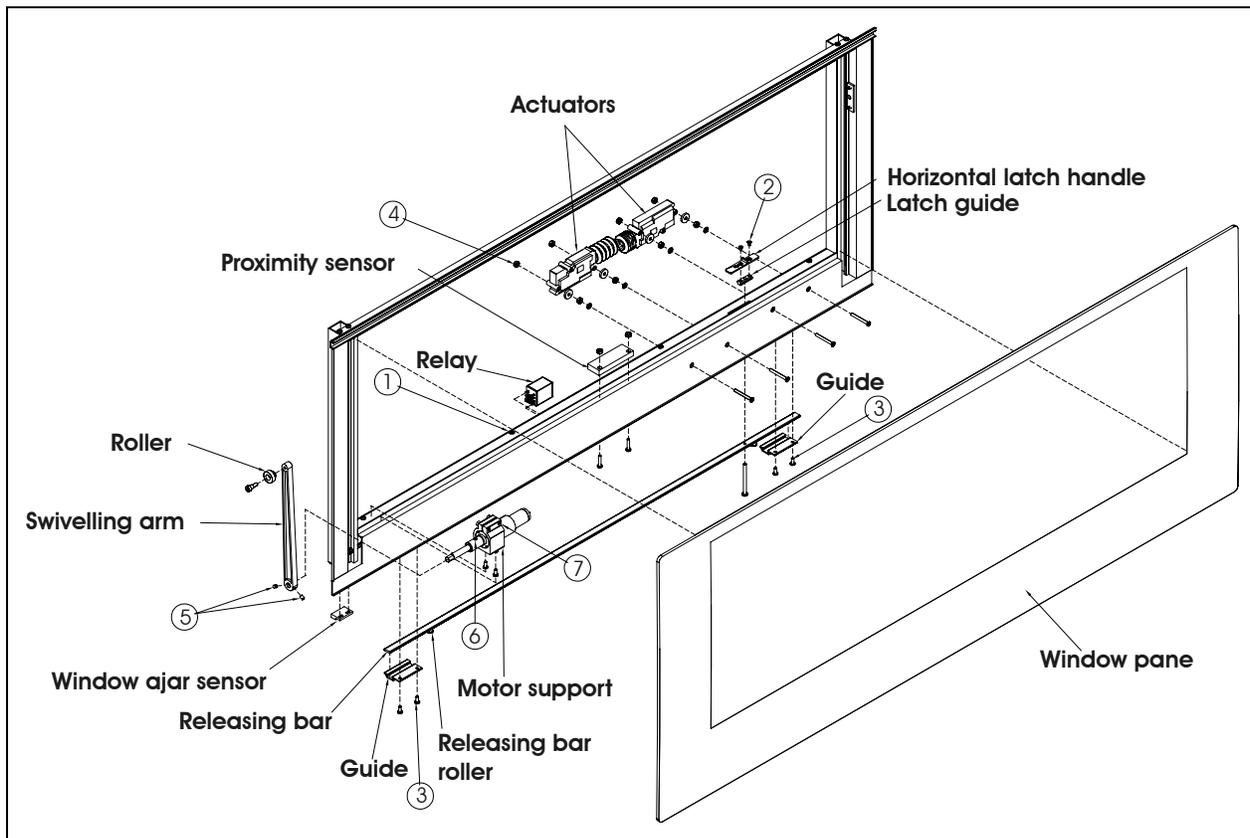

FIGURE 19: ELECTRIC AWNING WINDOW EXPLODED VIEW (SASH) 18583
4. Loosen the set screws #5 (figure 19) (rotate the arm to get to the second set screw) and disengage the swiveling arm from the motor shaft extension.